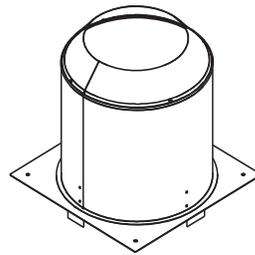

**FIG. 6 FIRESTOP SPACER**
The Wall Thimble also acts as a firestop. At other locations, a Firestop Spacer (FS) should be installed. In the attic the firestop should be placed on top of the joist framing to prevent debris from falling into the joist framing (see Fig. 6).